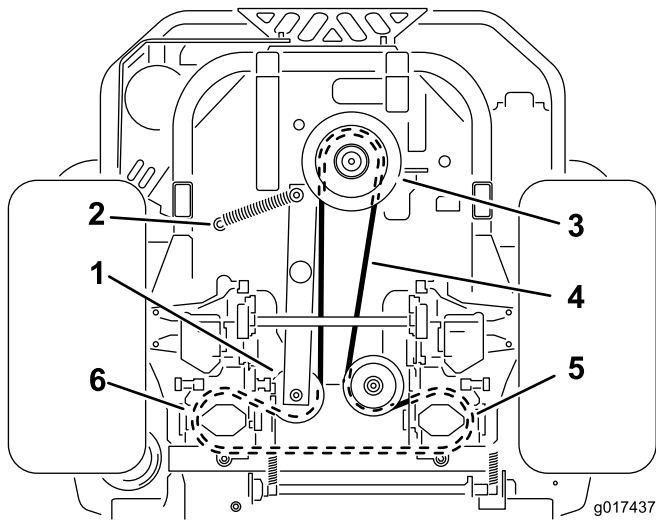

Figure 61
4. Raise the machine and support it with jack stands (Figure 61).
6. Remove the idler spring from the post (Figure 61).